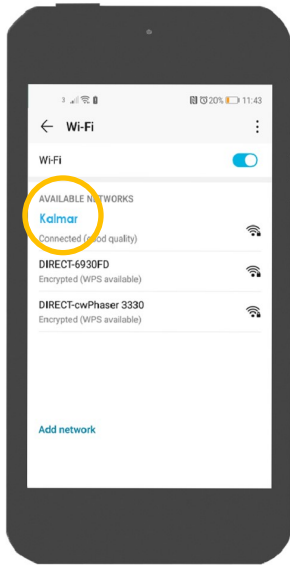

Fig 1.
3. Once your appliance has been installed and turned on, go to the wi-fi settings on your device and select the fireplace. This will connect your device to the fire. Fig 1.